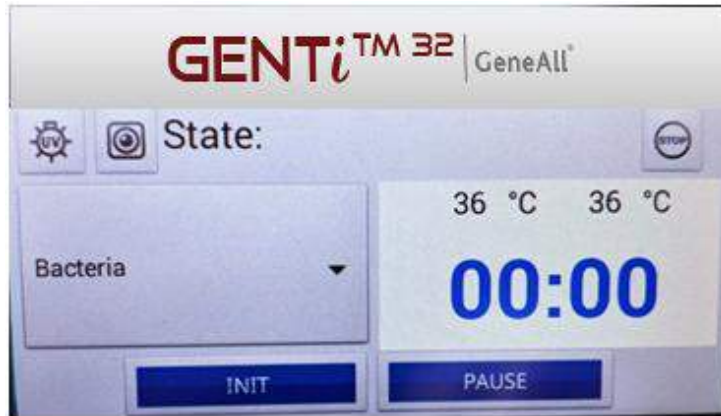

Figure 14 .Completion signal on the touch screen
C. To perform the extraction, please press the 'INIT' button and the 'Start' button to perform extraction. After pressing buttons, it will be started automatically and indicates the remaining time (a) on the screen (Refer to Figure 14). After completion, it gives a beep sound and user may check the progress of step through the window of touch monitor.